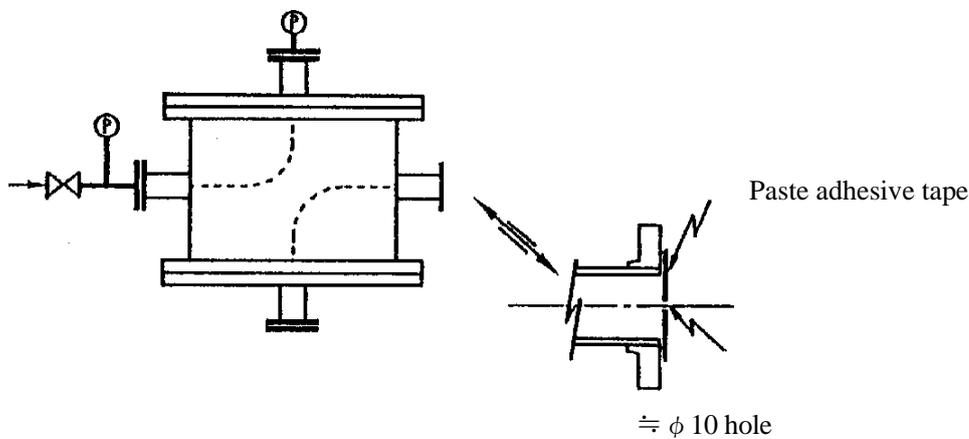

Fig. 10
- (1) As shown in following Fig. 10, fix pressure gage inside the flow path on one side.
- (2) Gradually inlet the air up to the inspection pressure.
- (3) On the other inlet of the flow path, fix closed flange, paste adhesive tape etc. at the outlet, open a small hole at the centre, and form a film in that hole with soap water.